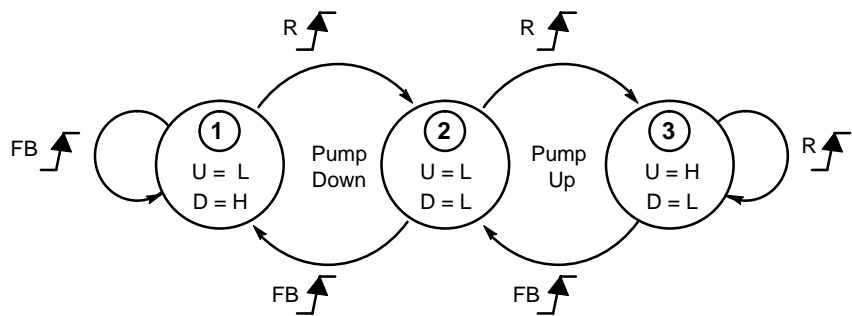

Figure 2. Phase Detector Logic Model
The MC100EP140 is a three state phase frequency–detector intended for phase–locked loop applications which require a minimum amount of phase and frequency difference at lock. Since the part is designed with fully differential internal gates, the noise is reduced throughout the circuit, especially at high speeds. The basic operation of a Phase/Frequency Detector (PFD) is to “compare” an incoming signal (feedback) to a set reference signal. When the Reference (R) and Feedback (FB) inputs are unequal in frequency and/or phase, the differential UP (U) and DOWN (D) outputs will provide pulse streams which, when subtracted and integrated, provide an error voltage for control of a VCO. Detector states of operation are shown in the Figure 2 and the State Table.